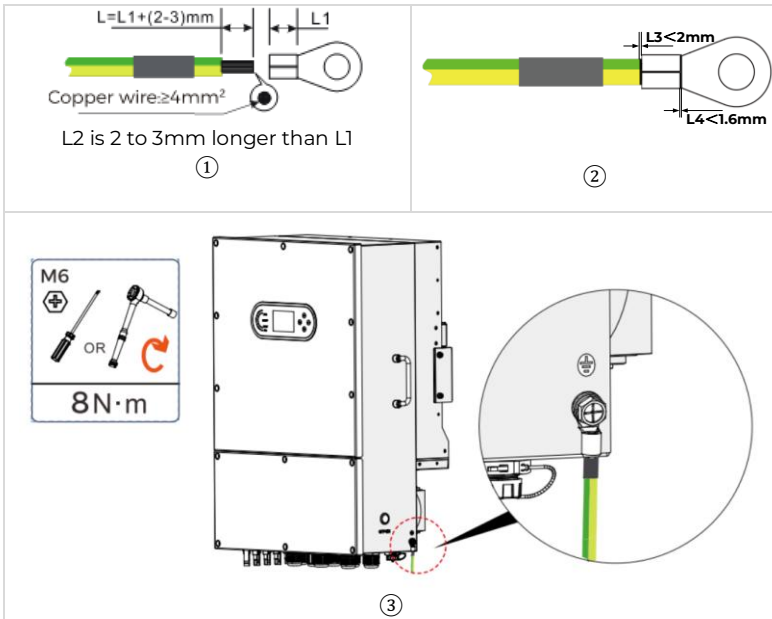

Figure 5-1 Connecting PGND cable
Step 1 Remove the insulation layer with an appropriate length by using a wire stripper, as shown in Figure 5-1①.
Step 2 Insert the exposed core wires into the OT terminal and crimp them by using a crimping tool, as shown in Figure 5-1②.
Step 3 Install the crimped OT terminal, flat washer and M6 screw. Tighten the screw to a torque of $8\text{ N} \cdot \text{m}$. by using an Allen wrench, as shown in Figure 5-1③.